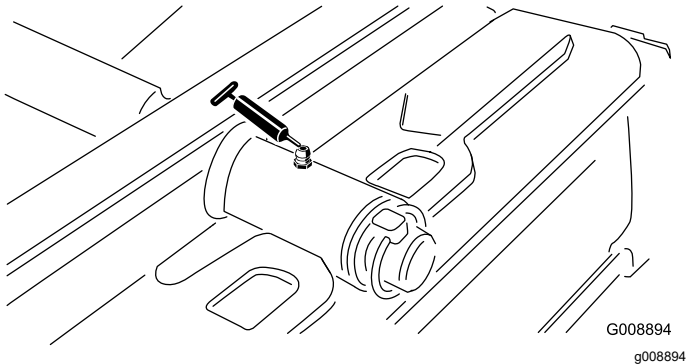

Figure 33
- Rear cutting-unit pivot (Figure 33)